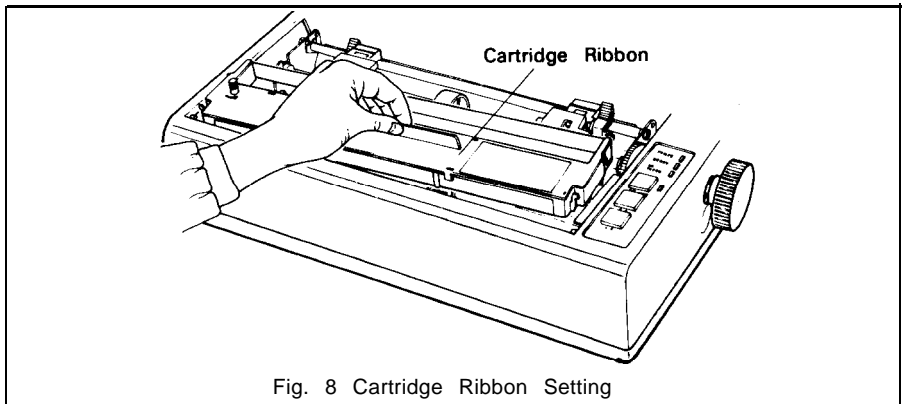

Fig. 8 Cartridge Ribbon Setting
- STEP 3. Push the cartridge ribbon down and set it on the printer mechanism. To facilitate the cartridge ribbon setting, be sure to hold the projection at the center of the cartridge case when pushing the cartridge ribbon down. (See Fig. 8.)